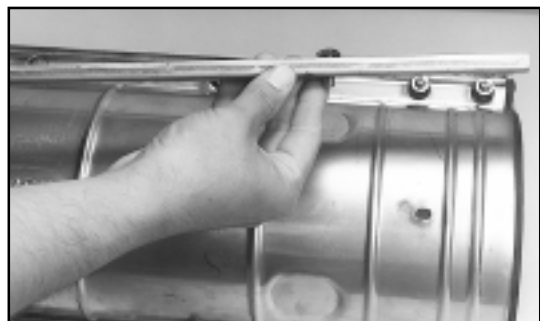

FIGURE 2 - INSTALL BOLTS
- 3.01** Install the two 1/4" square head bolts (included with splice case) in the back half of the top LOCKBAR™ Fastener prior to sealing the splice case. (Figure 2)